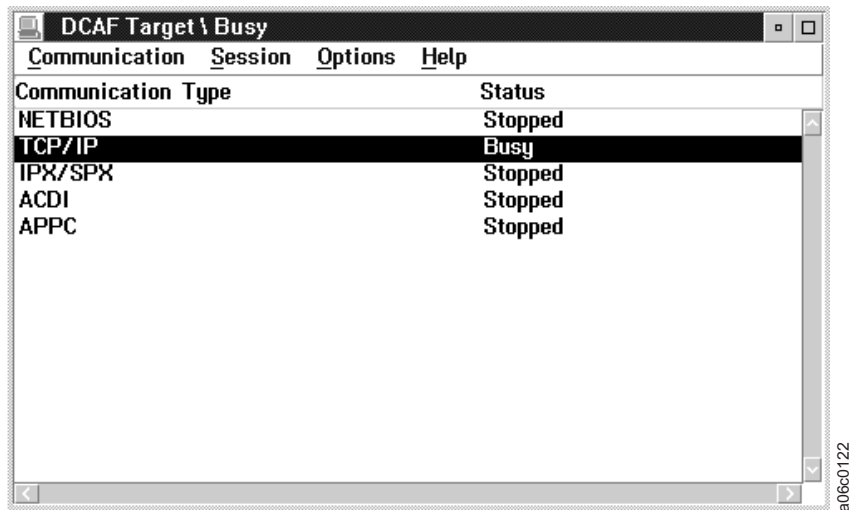

Figure 240. Changing Sessions
1. Press **Alt + T** on the Library Manager console. The DCAF Target \ Busy window (Figure 240 on page 358) opens and shows that the target is busy.
1. If you have an active session, take control at the Library Manager by pressing **Alt + T**. The DCAF Target \ Busy window (Figure 240) opens.